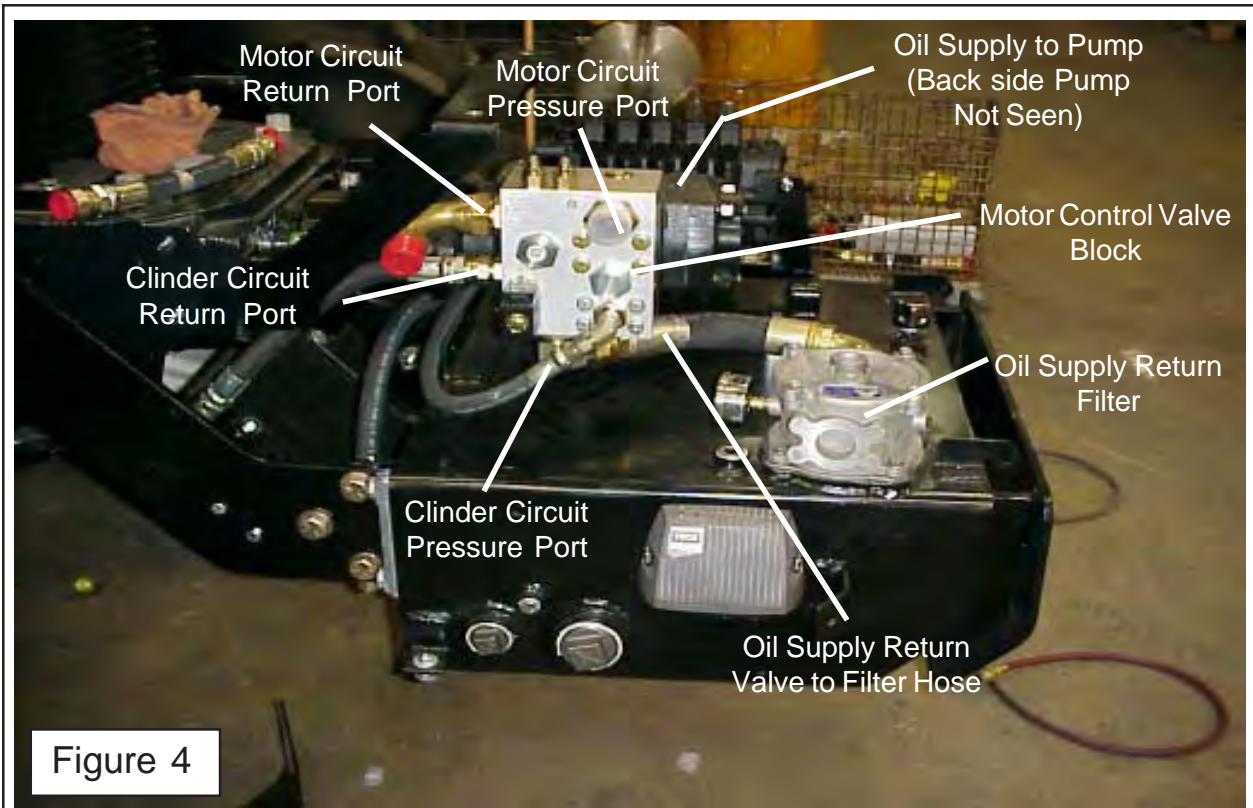

Figure 4
The Tandem pumps utilized on Xtreme Booms provide hydraulic oil flow for both, the boom movement / control functions as well as for the operation of the cutter motor circuit. The cutting circuit section is the larger section located closest to the mounting flange, while the boom movement section is the smaller section and is located behind the cutting circuit section (Figure 4).
5. Install Shaft End of Driveline / Engine end. Install the Shaft 1/2 Assembly w/ Flanged Yoke into the Engine compartment of Tractor, install it from the LH front Side down and under radiator. **(See Figure 4)**. This needs to be installed this way because the Flange Yoke will not go through the Crankshaft access hole in the front of the Tractor. Bolt the Flange Yoke to the Pulley Adapter using the four 7/16" X 1-1/4" Bolts (Part # 02976344), use the four Lock Washers (Part # 00022200), put Loctite on the threads of the Bolts and install them into Pulley Adapter. To Tighten these four Bolts, use a long extension and go through the front Crankshaft Pulley access hole in front of Tractor. Do Not use bolts longer than 1-1/4" long, longer bolts will damage Crankshaft Pulley.